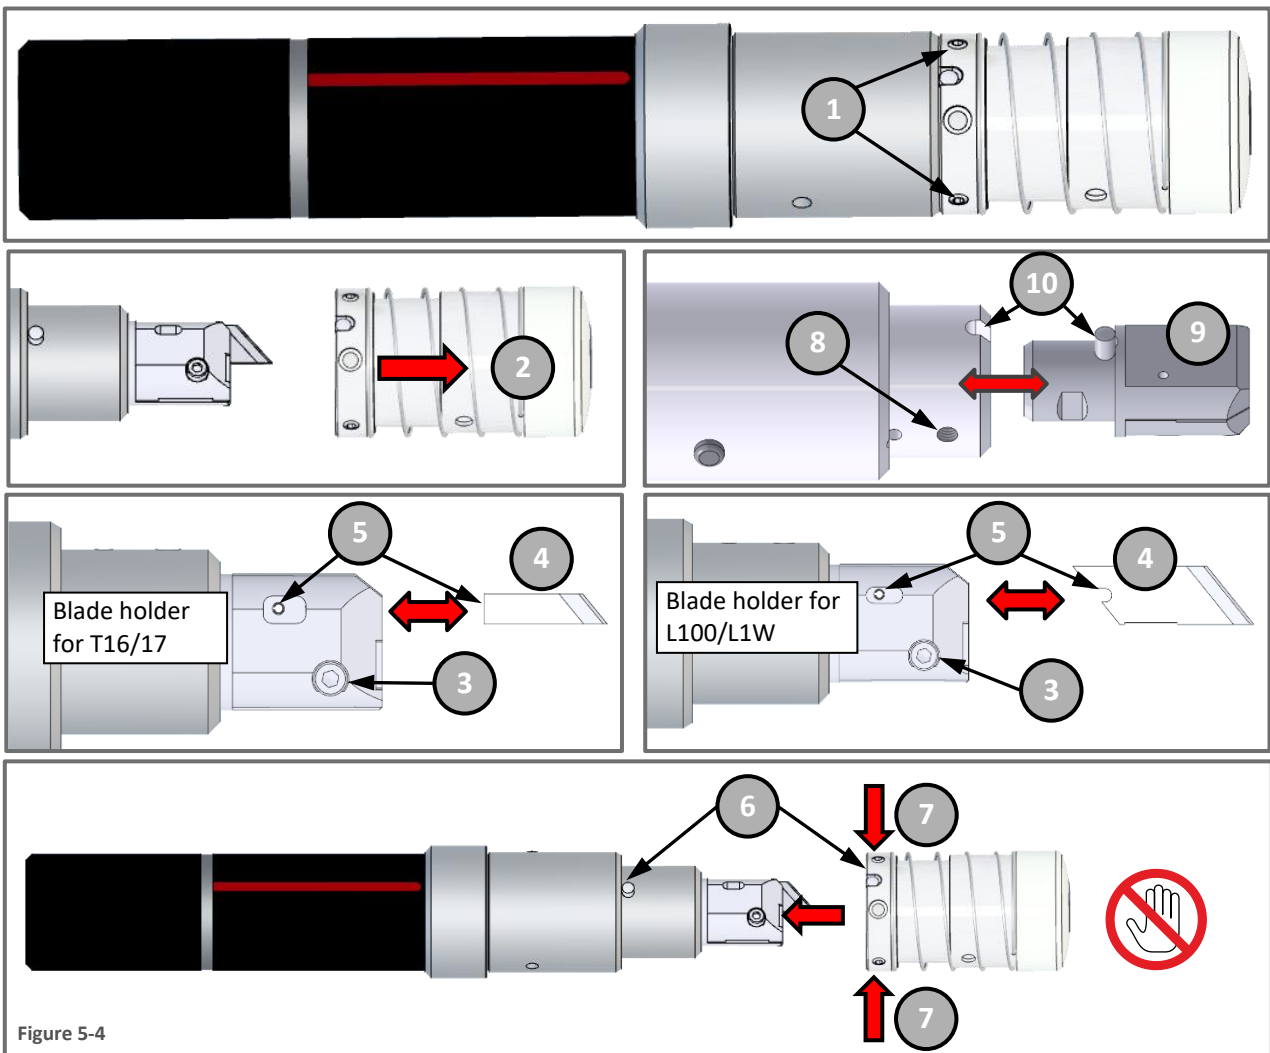

Figure 5-4
a) Loosen the locking set screws (1) and remove the movable blade guard (2) Figure 5-4.